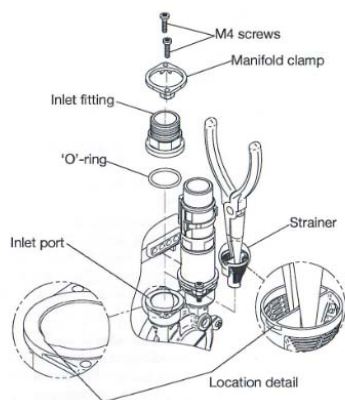

Fig 2.1 Pump inlet filter/suction strainer
- 2.2.8 check and clean pump suction strainer/inlet filter (See Fig 2.1)